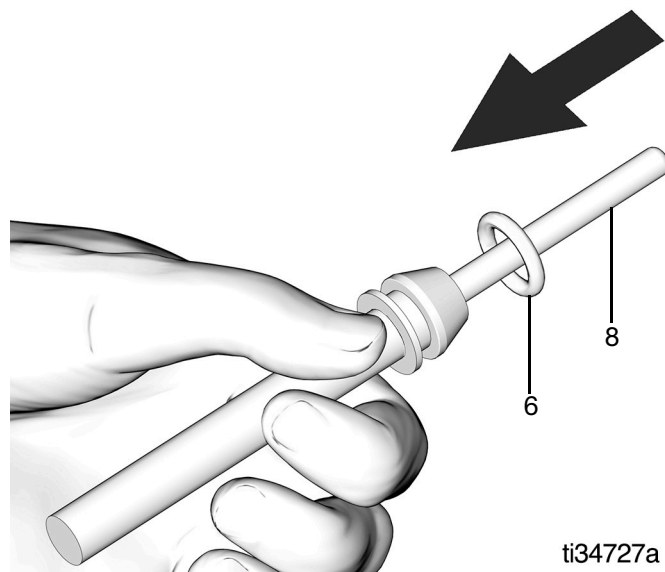

FIG. 12
1. Apply a thin layer of oil around packings (16 and 13) and inlet valve (14).
2. Install packing (16) inside injector body (9). Be sure packing is pushed all the way inside injector body.
3. Install inlet valve (14), backup ring (15), and packing (13).
4. Slide o-ring (6) onto indicator pin (8) as shown in FIG. 12.